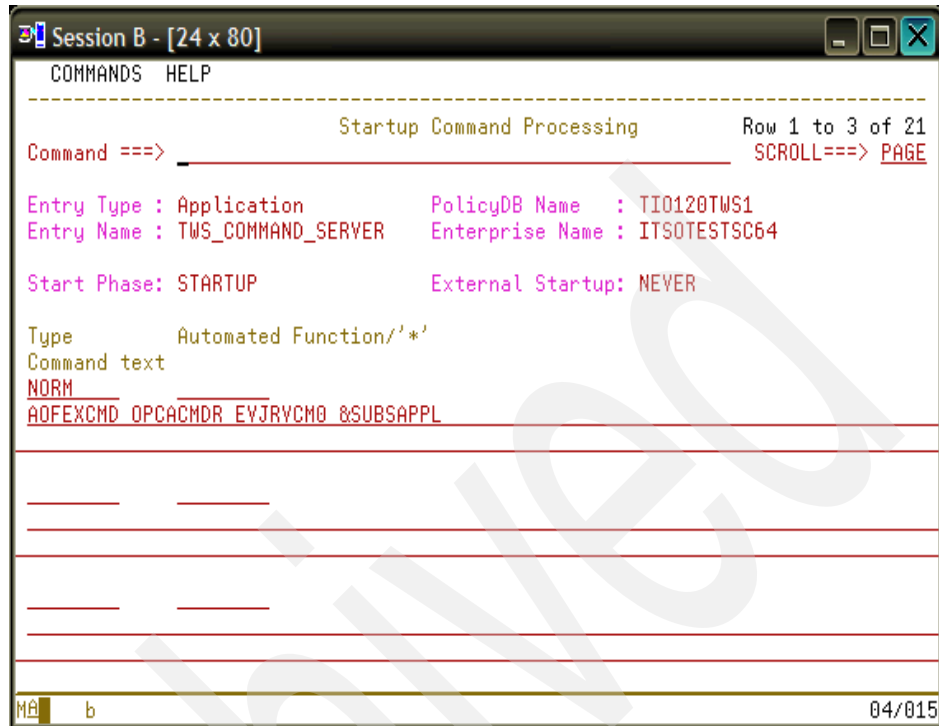

Figure 4-35 Startup Command Processing panel
2. There is no PRESTART or POSTSTART Phase for the TWS for z/OS command server. Place an s in the Action column next to STARTUP. The Startup Command Processing panel that is shown in Figure 4-35 on page 140 displays.